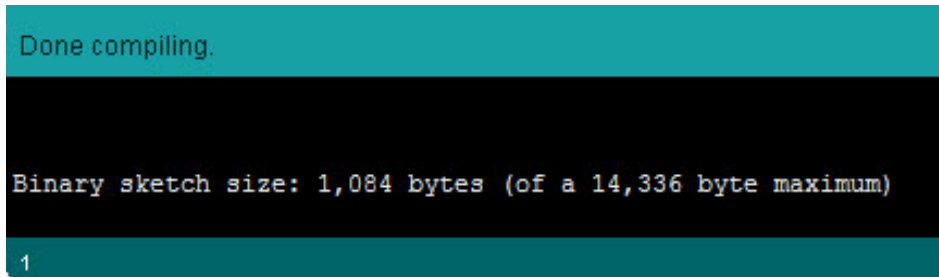

Figure2.4.9
2.4.8. If the C language code is correct and not found data error then information will be shown **“Done compiling”** and “Binary sketch size” as figure2.4.9.